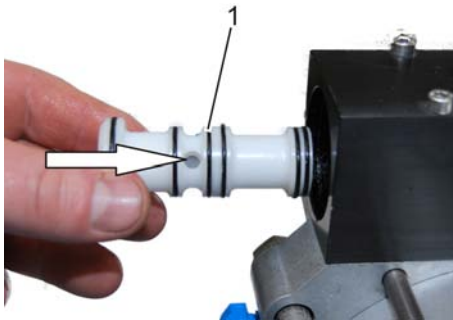

Fig. 36: Inserting control valve
- 11.** Insert control valve (Fig. 36/1) into control valve housing and push in up to the stop (Fig. 36/arrow).